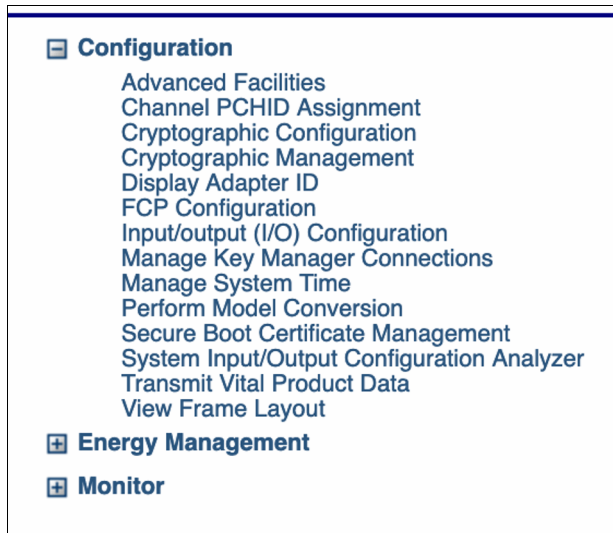

Figure 28 Select FCP Configuration
- Open the **Configuration** menu in the bottom center section, and select **FCP Configuration**. See Figure 28.